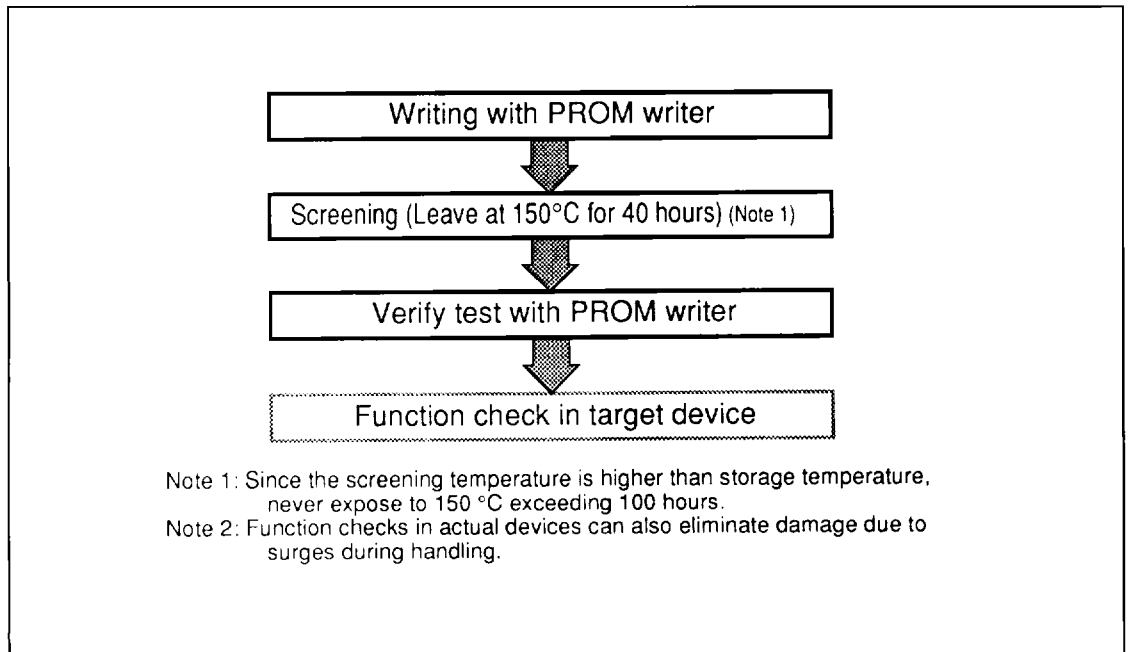

Fig.4.4.4 Writing and test for blank one-time programmable type
- (1) Sunlight and fluorescent light include wavelengths that will erase written data. When using the window version of the 7470 Series in read mode, always cover the transparent glass window with a light-proof seal.
- (2) Mitsubishi provides light-proof seals designed to cover the transparent glass window of the window version. Make sure that the seal does not touch the lead pins of the microcomputer.
- (3) Before erasing the window version, clean the transparent glass of the window. Dirt such as grease from hands and glue may hinder the passage of ultraviolet light and affect the erasure characteristics.
- (4) Writing involves the use of high voltages, so make sure that excessive voltages are not used. Pay particular attention when turning on the power source.
- (5) Mitsubishi does not test or screen any writing to PROM in blank one-time programmable microcomputers\*\* after they have left the factory. To improve reliability after writing, we recommend that these microcomputers are written to and tested in the sequence shown in the flow diagram of Figure 4.4.4.